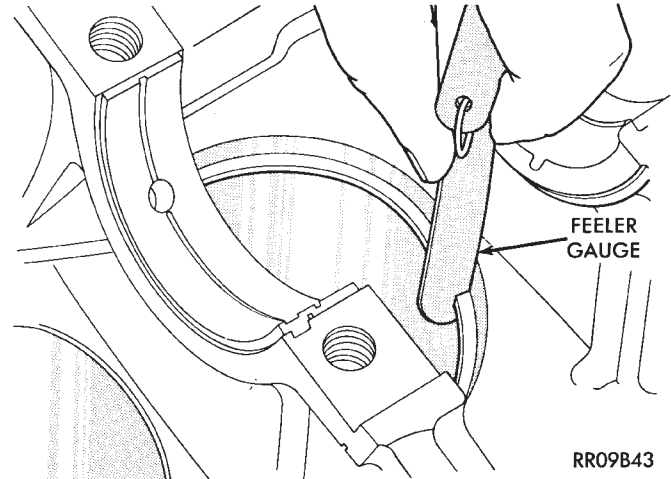

Fig. 6 Check Gap on Piston Rings
(1) Wipe cylinder bore clean. Insert ring and push down with piston to ensure it is square in bore. The ring gap measurement must be made with the ring positioning at least 16 mm (0.63 in.) from bottom of cylinder bore. Check gap with feeler gauge (Fig. 6). Refer to Piston Ring Specification Chart.